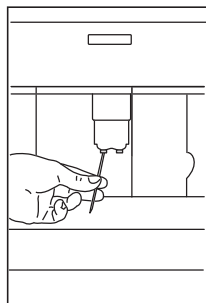

Fig. 34
- Check regularly that the holes in the coffee spout are not blocked. If necessary, remove coffee deposits with a toothpick (Fig. 34).